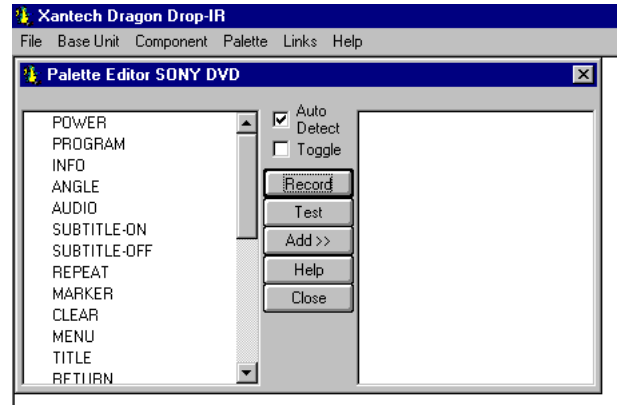

Figure 5 – Palette Editor
4. The Palette Editor will now be open to the "Brand" & "Component" selected. A list of FUNCTIONS for that type of component will appear as shown in **Figure 5**. (See later sections for adding functions).